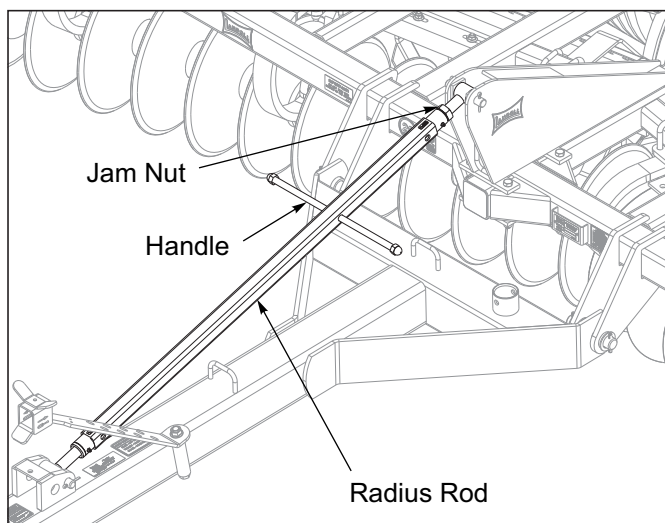

Figure 4-5: Radius Rod Adjustment
2. To adjust the leveling feature, loosen the jam nut on the top of the adjustable radius rod **See Figure 4-5**. Extend or retract the radius rod to obtain the desired length using the handle in the middle of the radius rod. Retighten the jam nut.